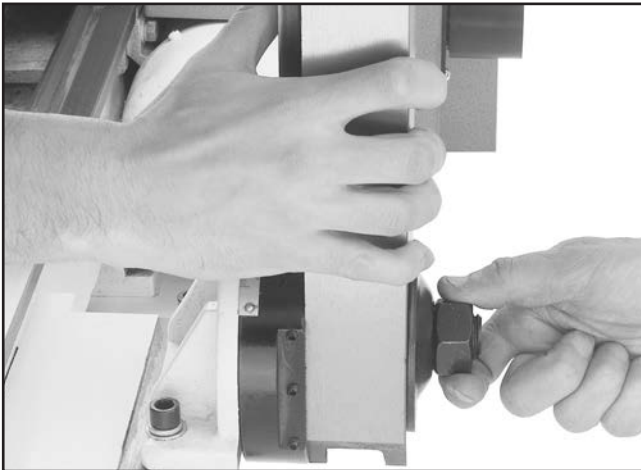

Figure 5. Threading nut onto bolt with mill/drill unit in place against mounting bracket.
3. Place the bottom end of the mill/drill unit over the mounting bolt and up against the mounting bracket, then have your assistant thread the nut onto the bolt as shown in **Figure 5**—but DO NOT tighten the nut yet.